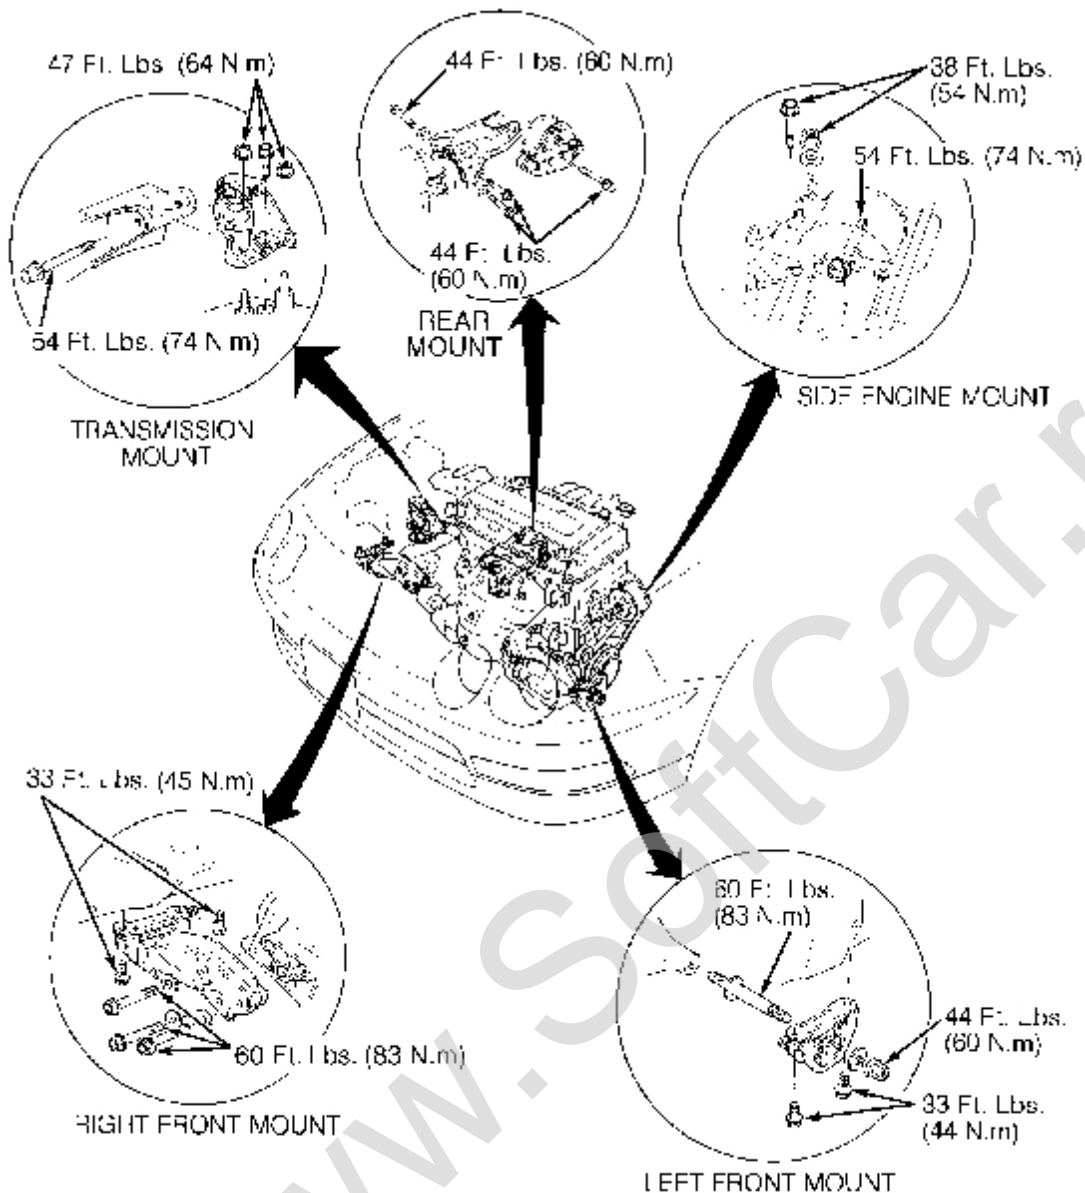

Fig. 5: Engine/Transaxle Mount Tightening Sequence
1. To install, reverse removal procedure. To prevent excessive engine vibration and premature engine mount wear, tighten engine/transaxle mounts in sequence specified in next step. See **Fig. 5** .